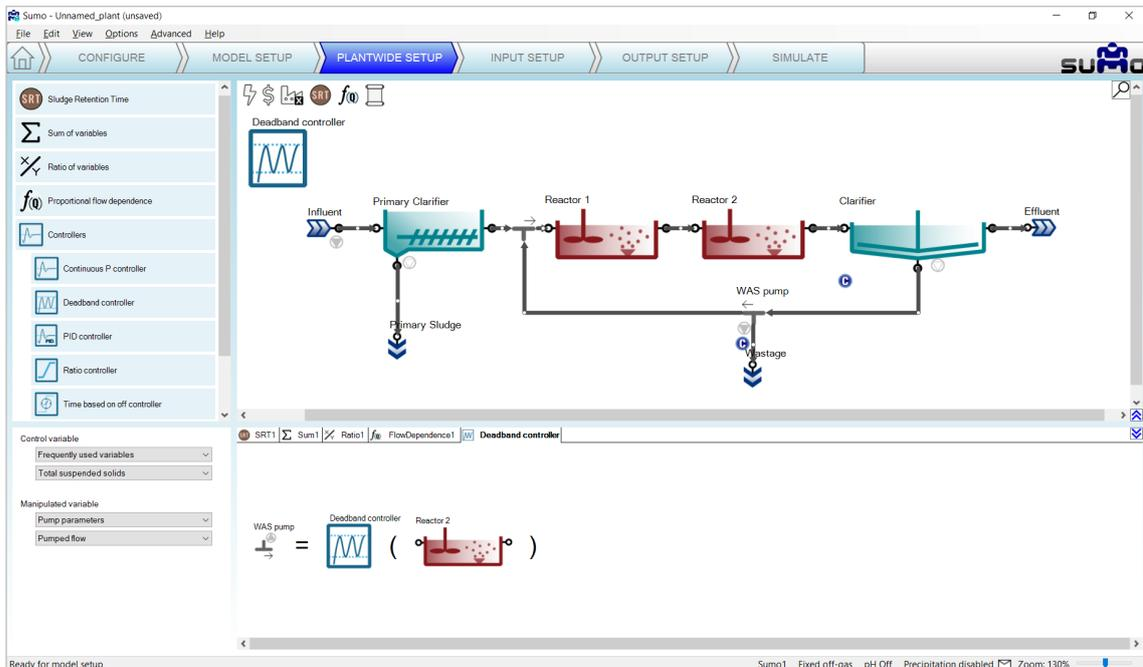

Figure 19 – Setting up a Deadband controller
Adding a Deadband controller can be done in a similar way as the Sum of variables. First drag and drop the manipulated unit to the left side of the equation in the bottom right screen panel, and then the controlling unit to the right side of the equation. In the bottom left screen panel, you can now select the control variable (CV) and the manipulated variable (MV, a parameter) of the selected units. In this example, we will control the Wastage pump to achieve the desired MLSS range, see Figure 19. Note that the “C” sign by the wastage pump will change to blue color, indicating that we have just set up and designated a controller for it that took over the role of the previously defined (but not activated, hence the former grey color) SRT control.